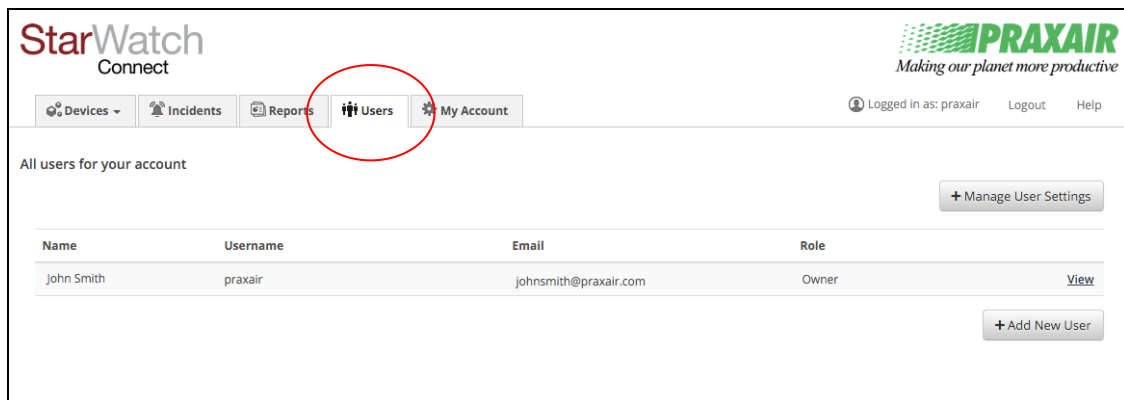

Figure 13: Users Screen Example
1. Select the  **Users** tab, which displays a list of all users that have access to the *StarWatch* Connect account (see Figure 13).